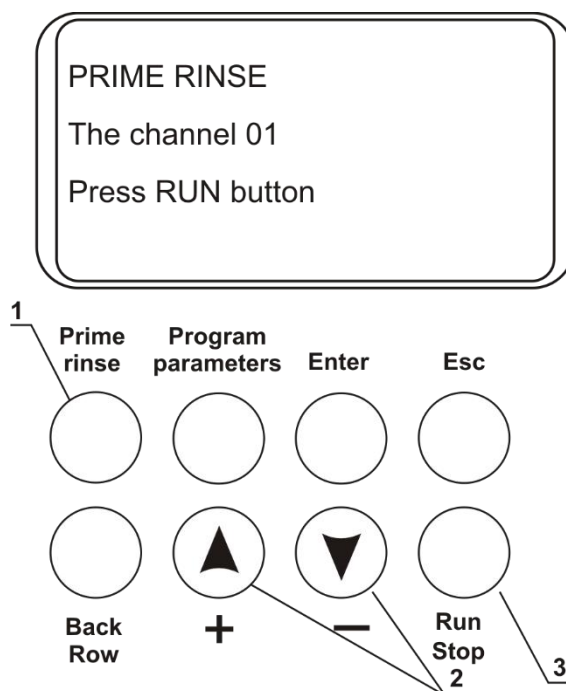

Fig. 10. System rinse
- 5.2. Press **Prime rinse** (fig. 10/1), display shows “PRIME RINSE, the channel 01”. Select the correct channel with using **+** and **-** (fig. 10/2). Press **Run/Stop** (fig. 10/3) key and the system will perform rinsing cycle. Repeat the procedure twice, if necessary.